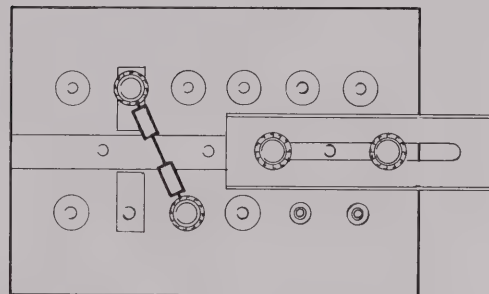

Fig. 2 Balanced Impedances (Floating)
- (b) Balanced impedances isolated from ground. Ground and Neutral not linked (Fig. 2.)